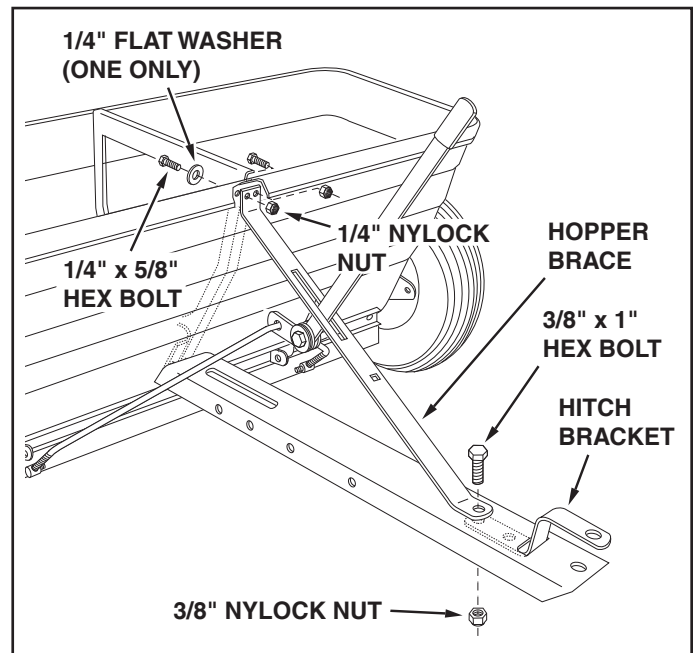

FIGURE 3
6. Attach the hopper brace to the hopper using two 1/4" x 5/8" hex bolts, one 1/4" flat washer and two 1/4" nylock nuts. **Do not tighten yet.** See figure 3.
7. Place the end of the hitch bracket (two holes) down through the slot in the tongue. Attach the hopper brace to the top of the tongue and the hitch bracket to the bottom using one 3/8" x 1" hex bolt and 3/8" nylock nut. **Tighten all bolts** assembled so far. See figure 3.